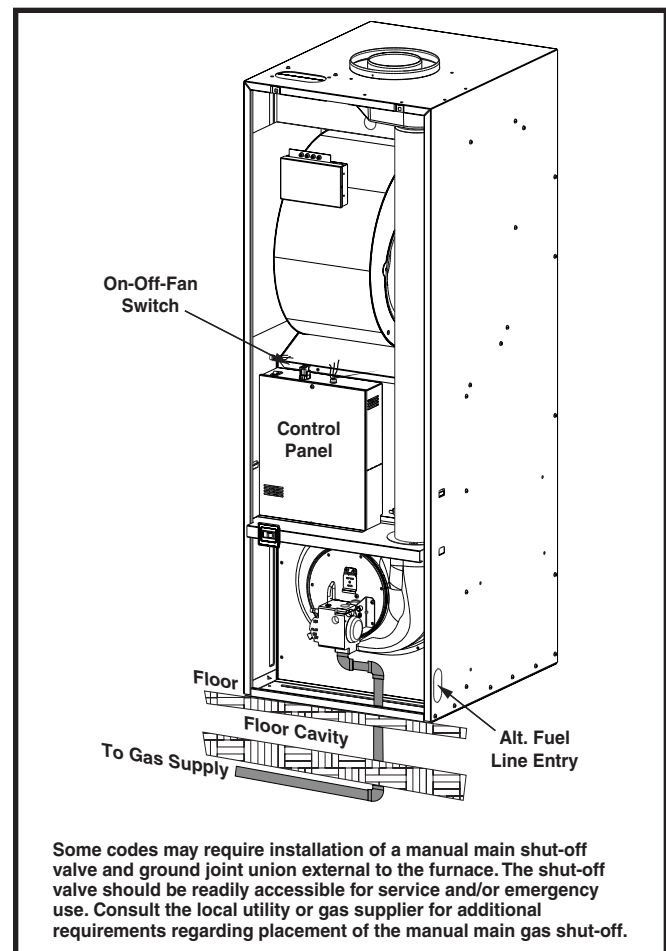

Figure 26. Typical Gas Piping
This furnace may be installed with left, right, or bottom gas entry. When connecting the gas supply, provide clearance between the gas supply line and the entry hole in the furnace casing to avoid unwanted noise and/or damage to the furnace. Typical gas service hookup for this furnace is shown in Figure 26 \(page 15\).
- Some local regulations require the installation of a manual main shut-off valve and ground joint union external to the furnace. See Figure 26 \(page 15\). The shut-off valve should be readily accessible for service and/or emergency use. Consult the local utility or gas supplier for additional requirements regarding placement of the manual main gas shut-off.
- Fuel line installations other than typical installations shown in Figure 26 \(page 15\) must comply with the fuel piping provisions stated in the Federal Manufactured Home Standard (H.U.D. TITLE 24, PART 3280) and the National Fuel Gas Code (ANSI-Z223.1/NFPA-54).